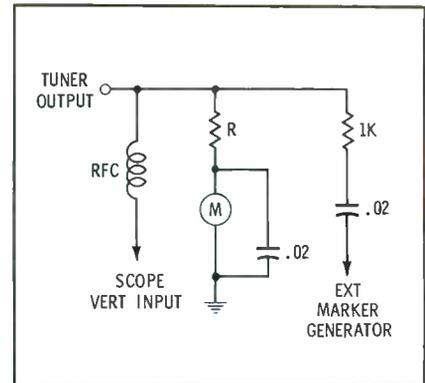

Fig. 6. Setup for sweep alignment of tuner.
1. Connect tuner output to scope through circuit similar to that shown in Fig. 6. Meter has 0-5 ma range. Resistance of R plus that of the meter should total 20 ohms.